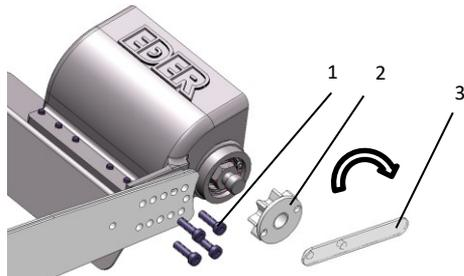

Fig. 2: Fastening the peeling head to the support
- > Screw the head you want to use with the 4 M6x20 screws (1 - Fig. 2). Check the screws regularly for tightness. The head can be screwed on in different positions depending on the chainsaw model. The correct position is the one that allows the drive chain to be sufficiently tensioned and re-tensioned.
- > Screw the drive sprocket onto the housing (2 - Fig.2) and tighten it with the pin wrench (3 - Fig.2).